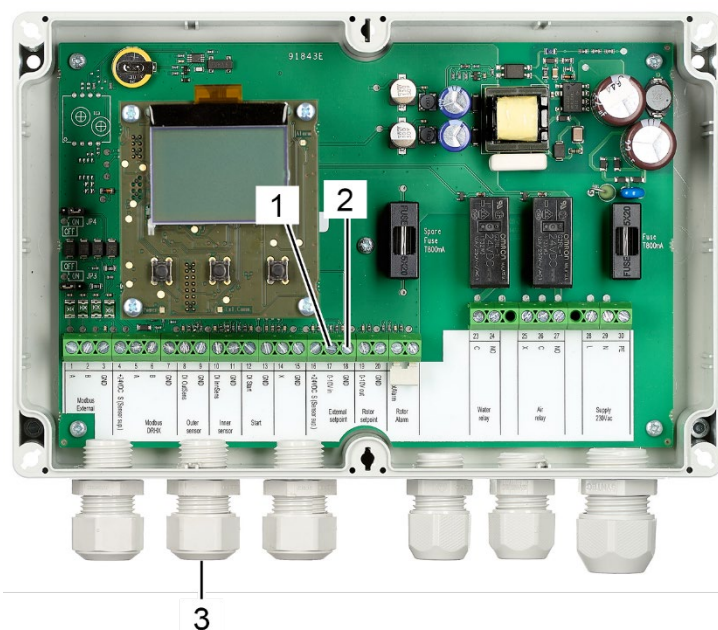

Fig. 87: Terminals external rotor speed control signal from the higher-level control
14. Insert the wires of the external 0-10 V signal cable through the cable socket (Fig. 87/3)
15. Connect external 0-10 V input signal wire to terminal 17 (Fig. 87/1, 0-10V in).
16. Connect the ground wire of the external 0-10 V input signal to terminal 18 (Fig. 87/2, GND).